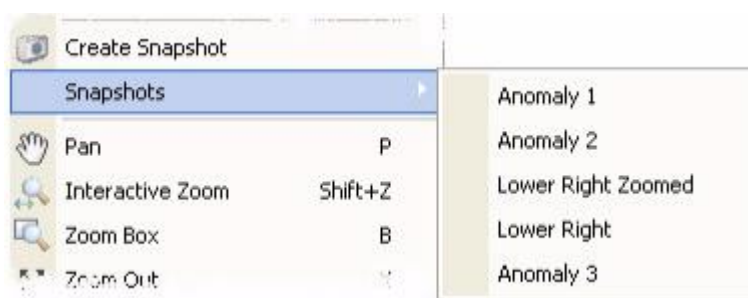

Figure 1.85. – Creating a snapshot
1. Open and select a map that already includes associated Snapshots. Right-click, and from the popup menu select *Snapshots*. A dynamic sub-menu will be displayed listing all of the snapshots associated with the current map, fig. 1.85.